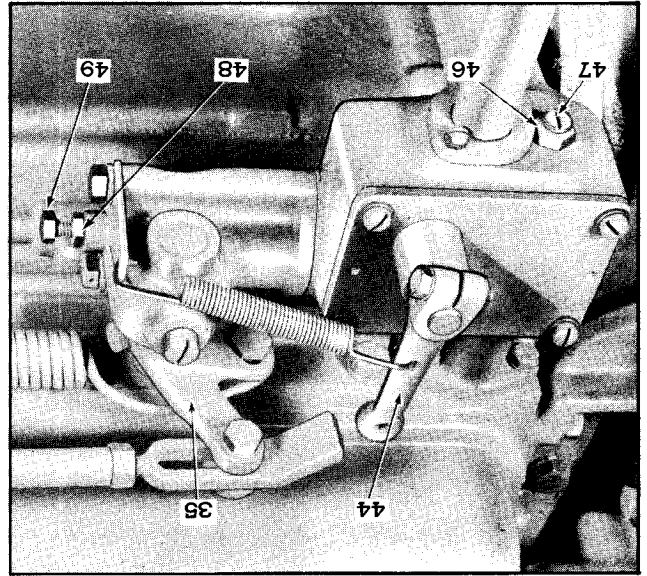

Fig. 11—Buffer and Idle Speed Adjusting Screws—Variable Speed Governor.
1. Refer to Fig. 11, loosen locknut (46) and back out buffer screw (47) until it projects about $\frac{3}{8}$ " from the governor housing.
1. Set governor control lever (44), Fig. 11, in the "RUN" position.
2. Secure the variable speed control lever (35) in at least the "half-speed" position—slightly forward of vertical.